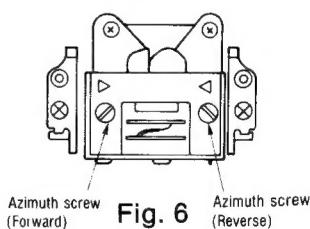

Fig. 6
9. In the forward playback mode, playback the 8kHz signal from the test tape (QZZCFM). Adjust the azimuth screw (Forward) shown in fig. 6 for maximum output L-CH and R-CH levels.
10. Turn the azimuth screw (Forward) shown in fig. 6 to find angles A and C (points where peak output levels for left and right channels are obtained). Then, locate angle B between angles A and C, i.e., point where L-CH and R-CH outputs are balanced. (Refer to figs. 6 and 7.)